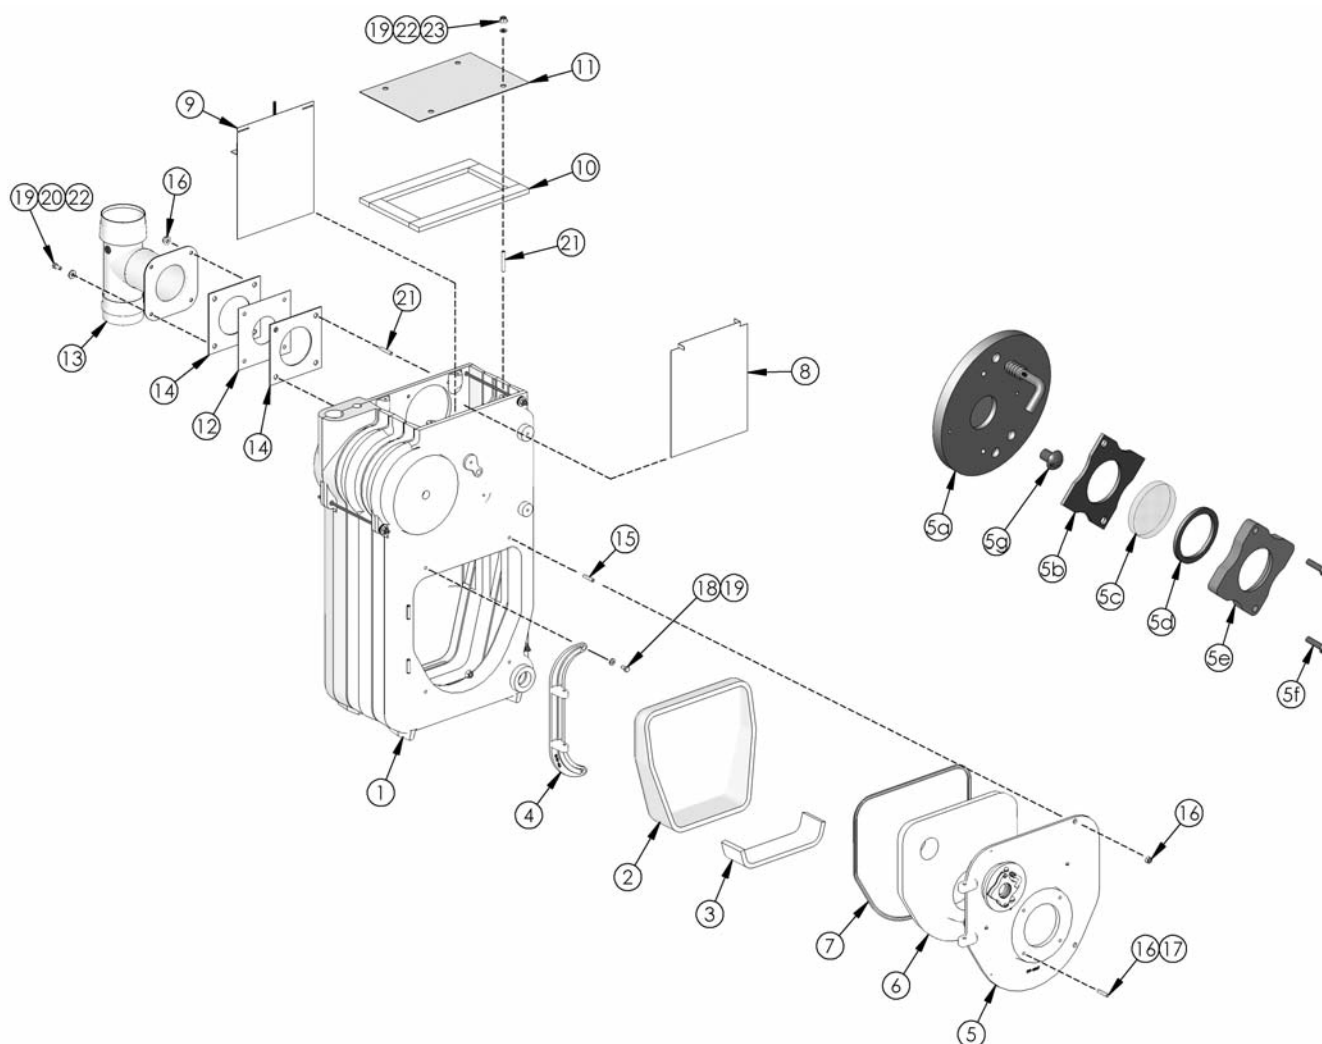
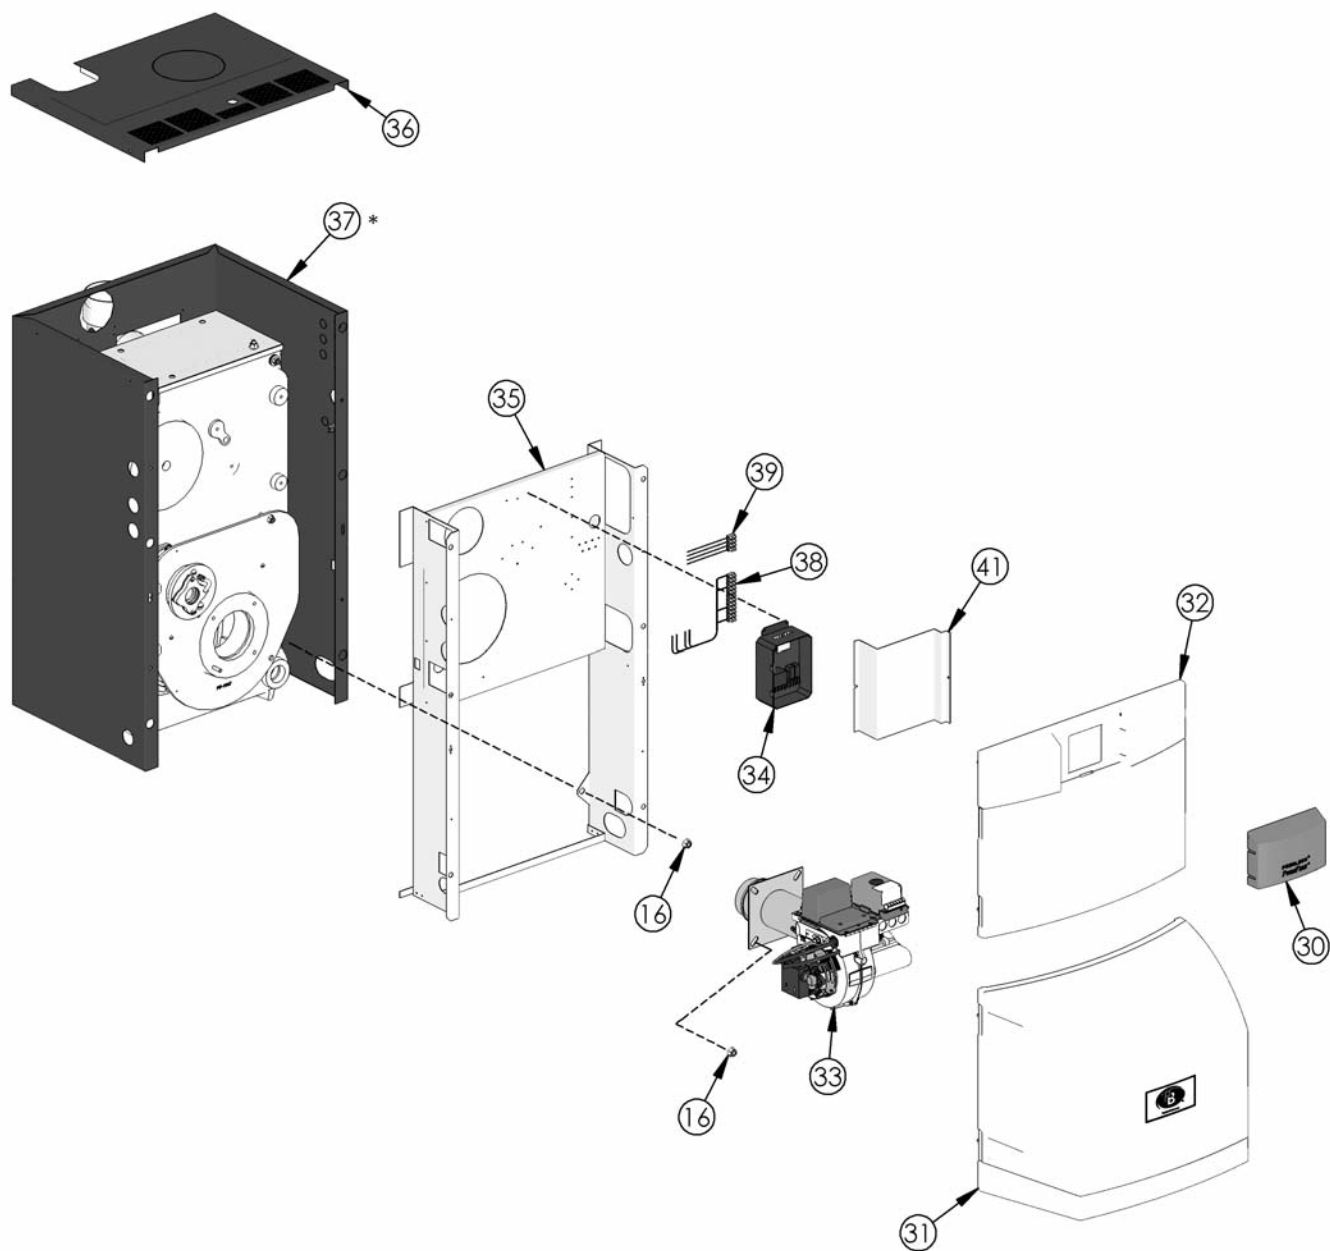

Figure 10.1: WB90™ Repair Parts – Block & Vent
Figure 10.2: WB90™ Repair Parts – Jacket/Burner/Controls
6. Remove the top jacket panel (Item #36 on Figure 10.2) and flue collector cover plate (Item #11 on Figure 10.1).